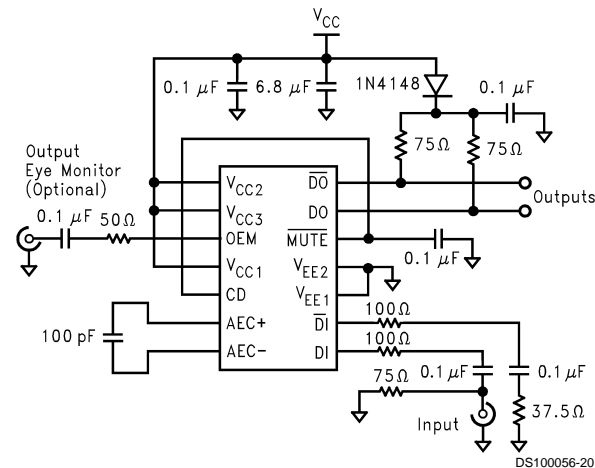

FIGURE 1. CLC014 Equalizer Application Circuit
Carrier Detect (CD) is a CMOS output that indicates the presence of equalized data from the filter. This CD output can be connected to $\overline{\text{MUTE}}$ to suspend changes in the data outputs DO and $\overline{\text{DO}}$, if no valid signal exists. This simple configuration prevents random output transitions due to noise. For sparse transition patterns it is recommended that a capacitor be connected to CD as shown in *Figure 1*.
The OEM is a high-speed, buffered output for monitoring the equalized eye pattern prior to the output comparator. Its output is designed to drive an AC-coupled 50Ω coaxial cable with a series 50Ω backmatch resistor. The cable should be terminated with 50Ω at the oscilloscope. *Figure 1* shows a schematic with a typical connection.
The CLC014 operates from either +5V or -5.2V single supplies. Refer to *Figure 1* when operating the part from +5V. When operating with a -5.2V supply, the V_{EE} pins should be bypassed to ground. The evaluation board and associated literature provide for operation from either supply.